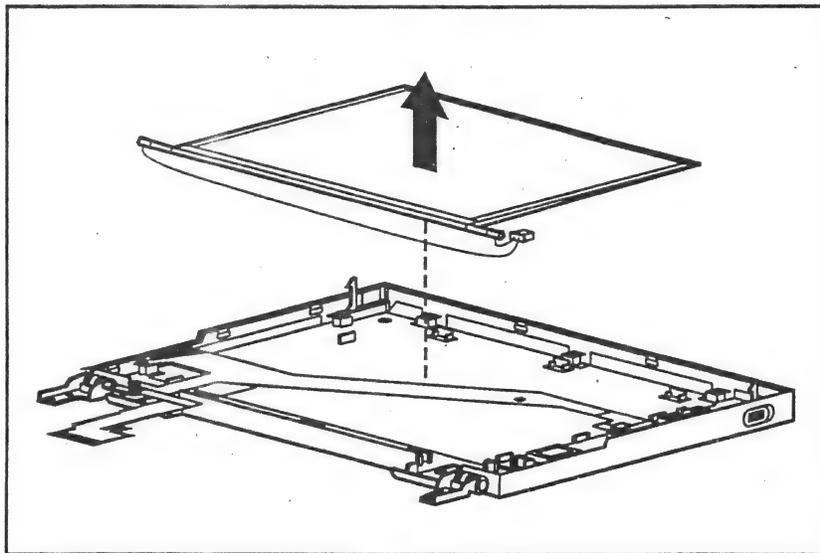

Figure 2-39. Removing the Backlight
4. Lift the backlight out of the display enclosure (Figure 2-39).